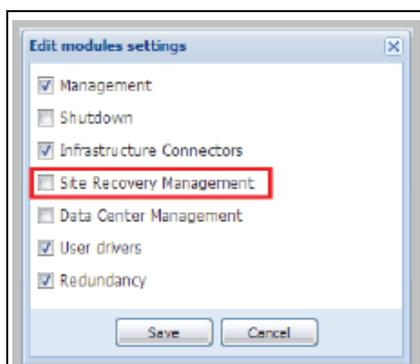

Figure 180. Edit Modules Settings
- From the Edit modules settings pop-up, check the box for Site Recovery Management and click **Save** (see Figure 180).